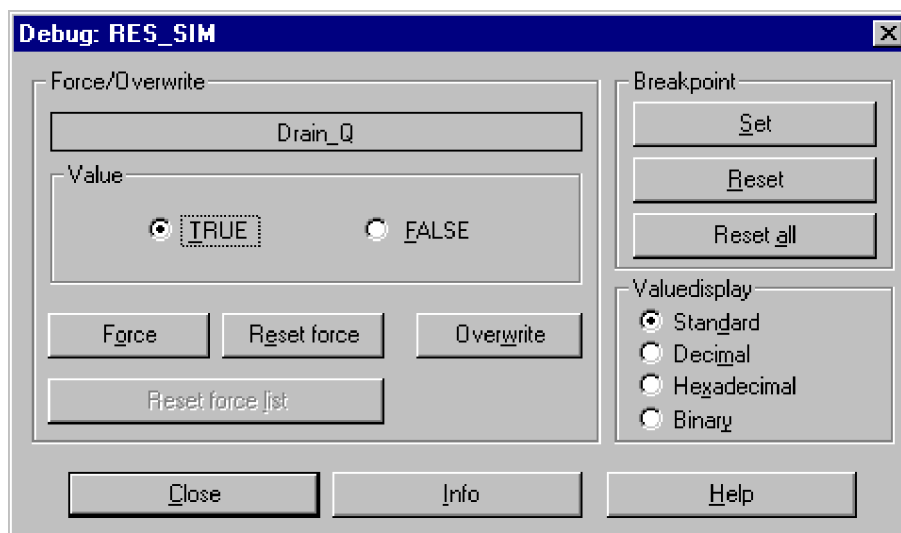

Figure 138: Dialog 'Debug: *resource_name*'
- The dialog 'Debug: resource_name' appears as shown in ▶Figure 138:◀ on page 191.